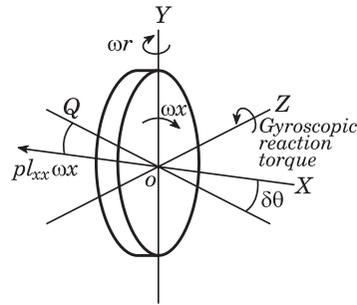

Fig. 1.6. A rotor with moment of inertia I_{xx} about axis OX .
6. Gyroscopic Effects. Fig. 1.6 indicates a rotor with moment of inertia I_{xx} about axis OX . Rotor has angular velocity ω_x about OX which itself rotates about axis OY (at right angles to OX with angular velocity ω_y).